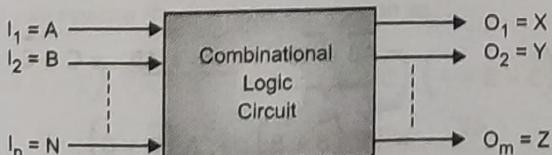

Fig. 2.2 : Block diagram of combinational logic circuit
- This can be shown as in Fig. 2.2.